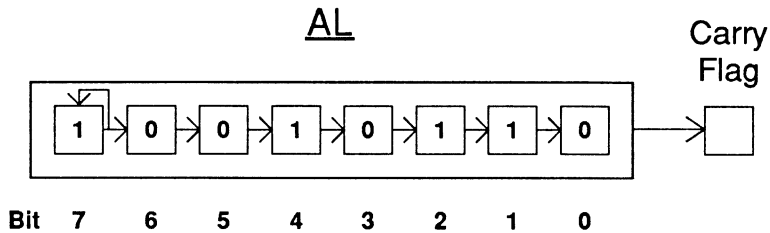

Figure 4.9: Example of SAR (Arithmetic Right Shift)
**SAR** (arithmetic shift right) is just like **SHR**, except that with **SAR**, the most-significant bit of the operand is shifted right to the next bit, and then back to itself. Figure 4.9 shows how the value 10010110b (96h or -106 in signed decimal) stored in AL is shifted right with **SAR AL,1**. The result is the value 11001011b (0CBh or -53 in signed decimal), which is stored back in AL. The carry flag is set to 0.